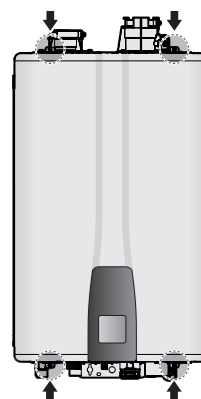

Figure 1.
2. Using a Phillips hand screwdriver, remove 4 screws (2 from the top and 2 from the bottom) of the front cover assembly to gain access to the internal components. See Figure 1 for illustration of the front cover on the unit.